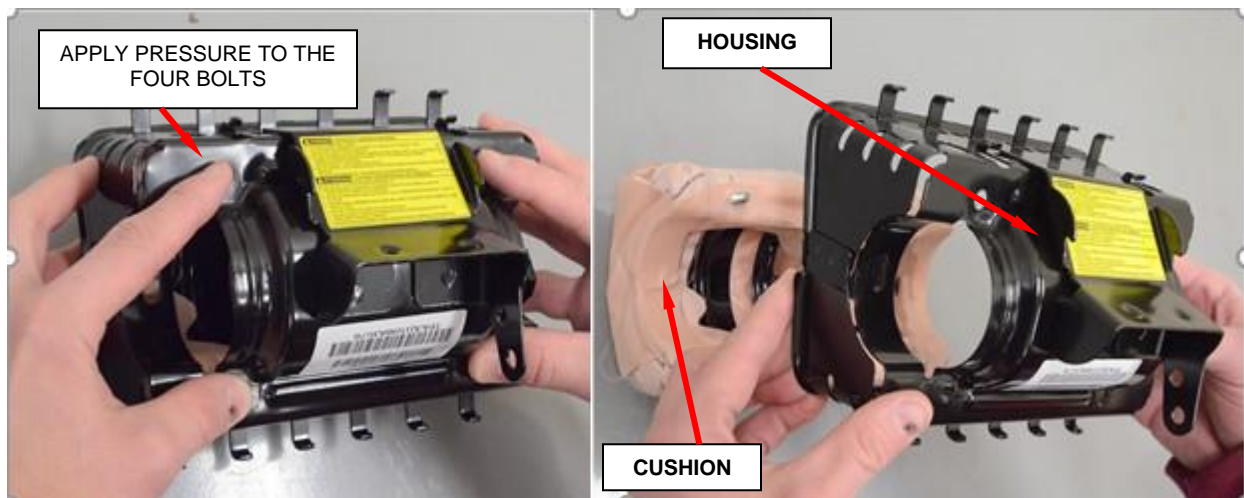

Figure 9 – Remove Airbag Cushion from Housing
g. Remove airbag cushion from housing by applying pressure to the bolts, set cushion aside (Figure 9).